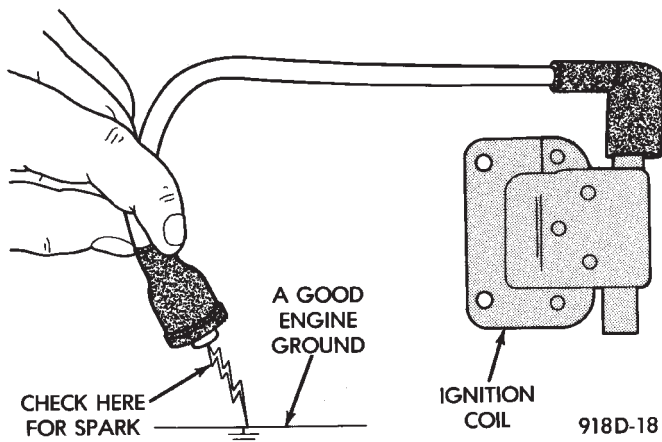

Fig. 6 Checking for Spark—Typical
(1) Disconnect the ignition coil secondary cable from center tower of the distributor cap. Hold the cable terminal approximately 12 mm (1/2 in.) from a good engine ground (Fig. 6).